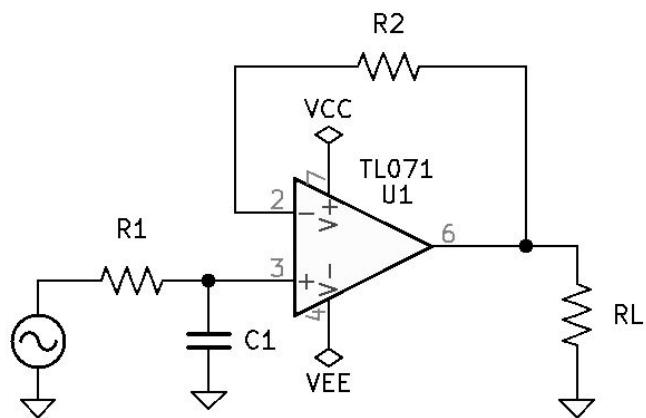

Figure 8.3: Low-Pass First-Order Active Filtering Circuit.
1. See Figure 8.3 *Low-Pass First-Order Active Filtering Circuit* on page 89.